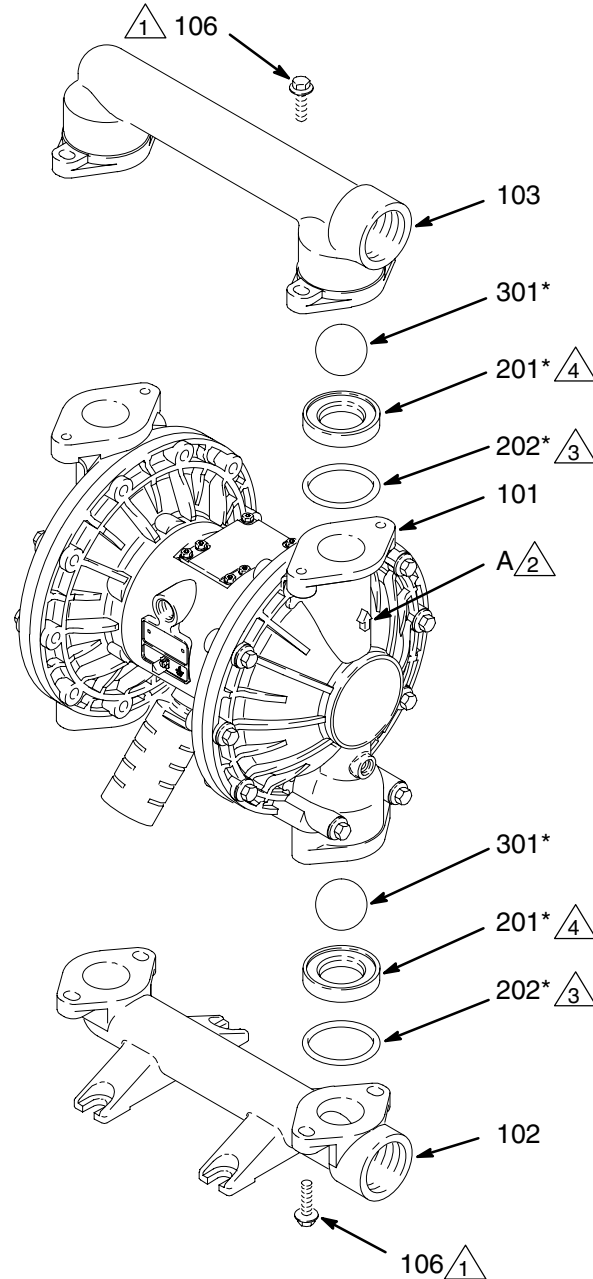

Fig. 10
3. Using a 13 mm socket wrench, remove the four bolts (106) holding the outlet manifold (103) to the fluid covers (101). See Fig. 10.
4. Remove the o-rings (202, *not used on some models*), seats (201), and balls (301) from the manifold.
5. Turn the pump over and remove the inlet manifold (102). Remove the o-rings (202, *not used on some models*), seats (201), and balls (301) from the fluid covers (101).
2. Reassemble in the reverse order, following all notes in Fig. 10. Be sure the ball checks are assembled **exactly** as shown. The arrows (A) on the fluid covers (101) **must** point toward the outlet manifold (103).
- 2  Arrow (A) must point toward outlet manifold (103).
- 4  Beveled seating surface must face ball (301).